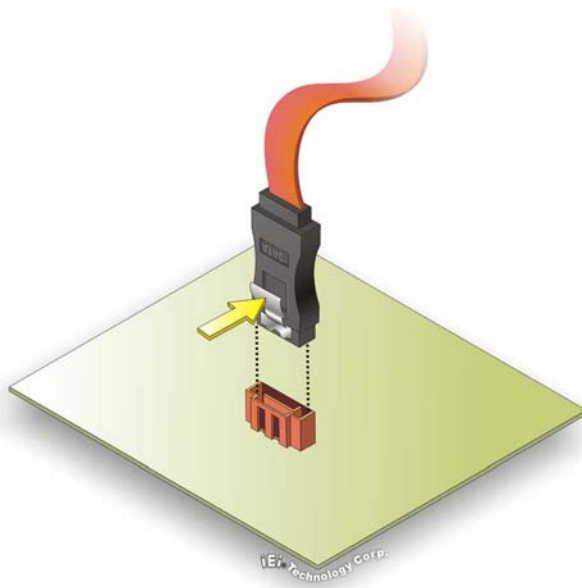

Figure 4-14: SATA Drive Cable Connection
Step 2: Insert the cable connector. Press the clip on the connector at the end of the SATA cable and insert the cable connector into the on-board SATA drive connector. See **Figure 4-14**.